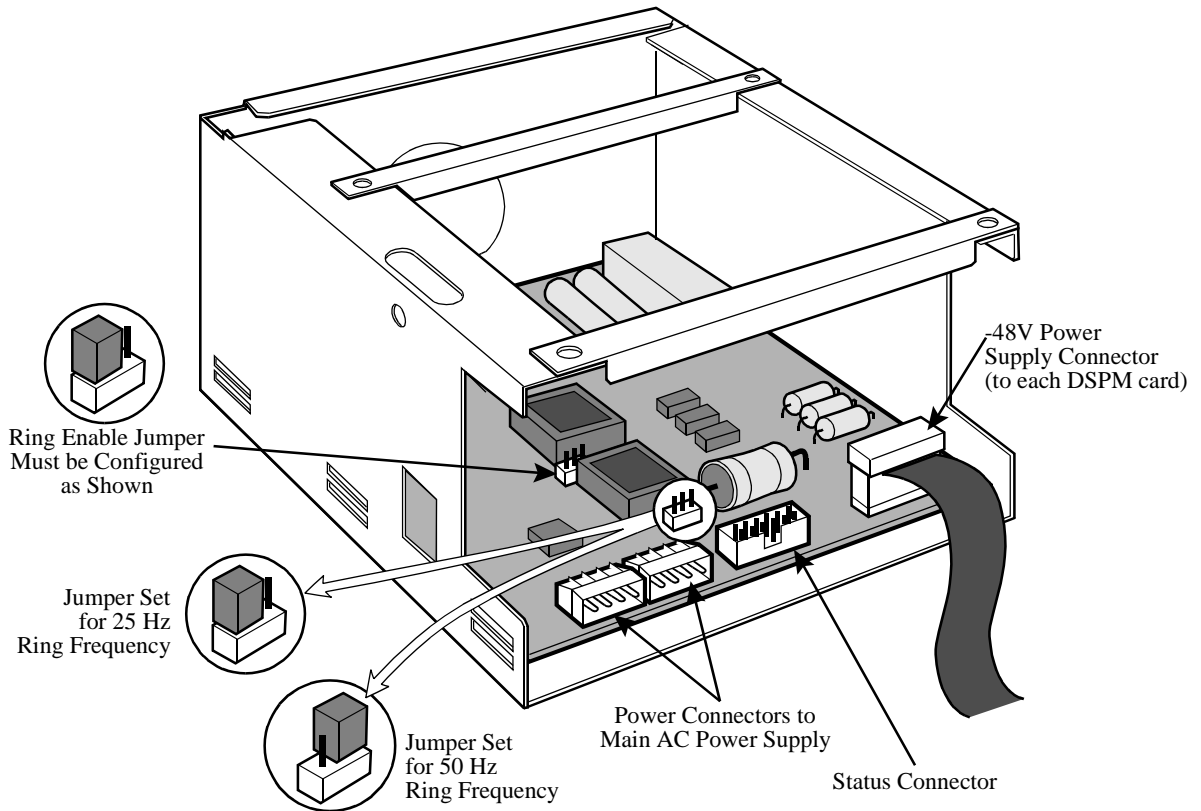
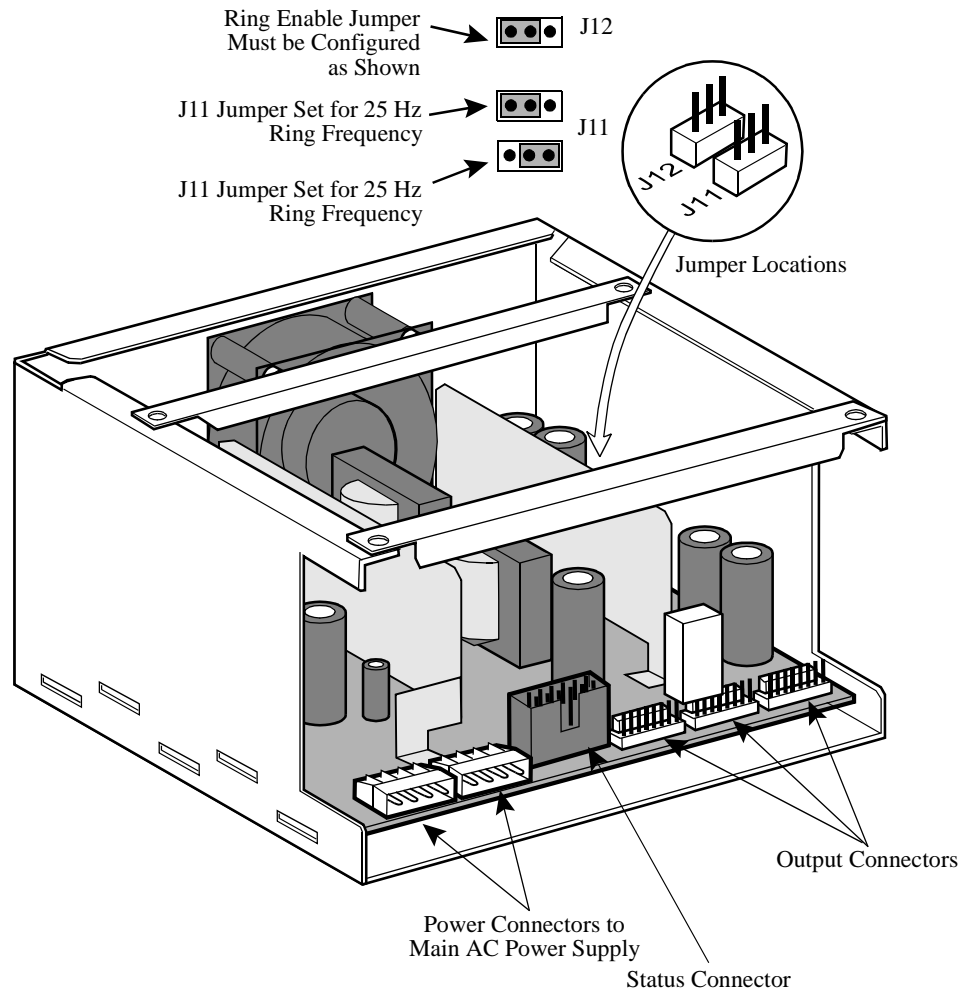

Figure 1-22. Standard -48V Ringer/Power Supply Card and Enclosure
Figure 1-23. Enhanced -48V Ringer/Power Supply Card and Enclosure
-48V Ring/Power Supply Types	<p>There are two versions of the -48V ringer/power supply: Standard and Enhanced.</p> <ul style="list-style-type: none">• The Standard -48V ringer/power supply (see Figure 1-22) can support two FXS cards.• The Enhanced -48V ringer/power supply (see Figure 1-23) can support six FXS cards. (Available in the Fall of 1998.)
Jumper Definitions	<p>The -48V ringer/power supply card has two sets of jumpers for various requirements.</p> <ul style="list-style-type: none">• One set of jumpers to enable or disable the -48V ringer supply output (should not be changed from its default setting of enabled.)• One set of jumpers to control the frequency of the ring supplied to the DSPM/FXS card: 25 Hz (US) or 50 Hz (Europe). <p>For more information see Figure 1-22 and Figure 1-23.</p>
Jumper Locations	<p>The jumpers for 25 or 50 Hz ring frequency are located on the -48V ringer/power supply card as shown in Figure 1-22 and Figure 1-23.</p>
Installing Jumpers	<p>Figure 1-22 and Figure 1-23 show jumper positions on the -48V ringer/power supply card for 25 or 50 Hz ring frequency and how to install the jumpers for 25 or 50 Hz ring frequency.</p>